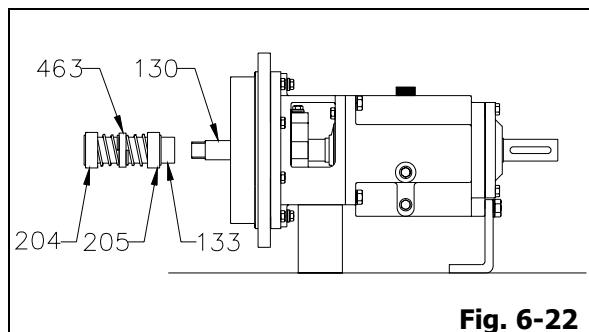

Fig. 6-22
- Remove shaft sleeve (133), abutment ring (463) (where applicable) and rotary portion of pump end and atmospheric end mechanical seal (204 and 205) as a unit from shaft (130) (Fig. 6-22).